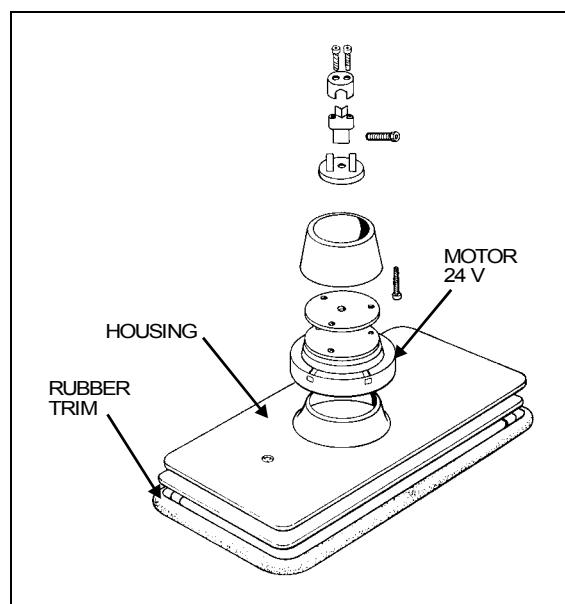

FIGURE 68: GLASS REPLACEMENT (SPARTAN) 18203
1. Remove the rubber trim (Fig. 68).